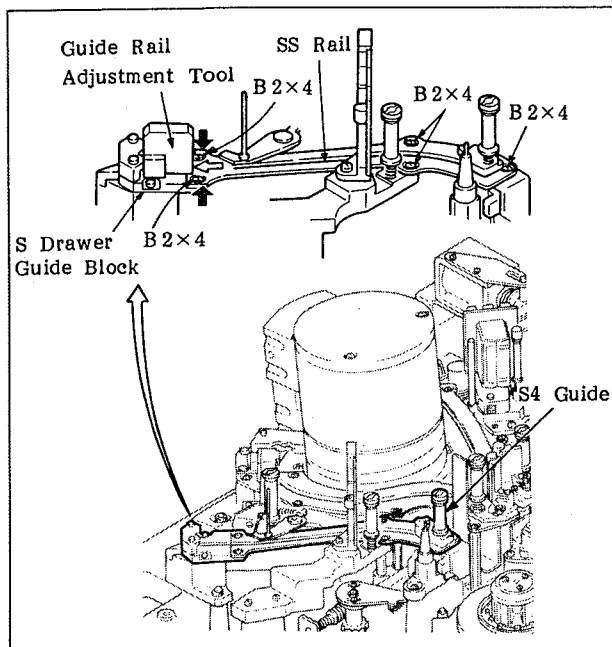

Fig. 6-61. Adjustment of the Attaching Position of the SS Rail
- Rotate the threading motor manually so that the S4 guide comes to the position shown in Figure 6-61.
- Place the guide rail adjustment tool in the position shown in Figure 6-61 and push it in the direction of the white arrow.